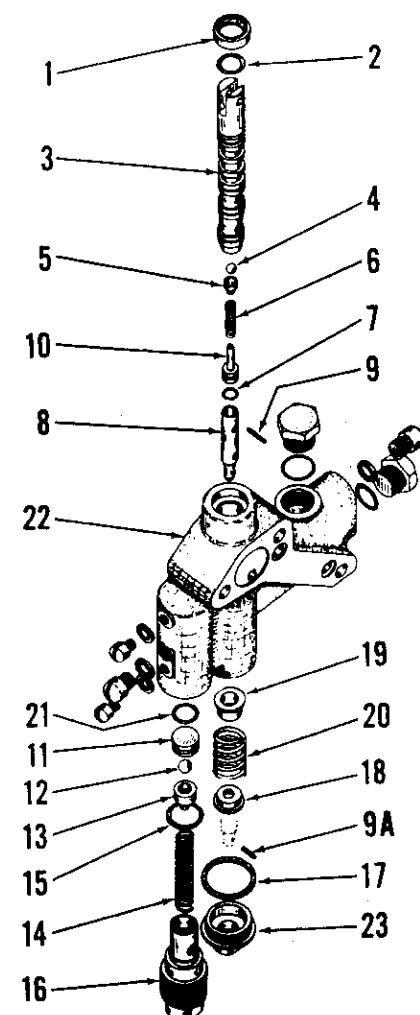

Fig. 150—Exploded view of the double acting auxiliary control valve used on Series 354, 364, 384, 424, 444, 2424, 2444 and late Series B-414 tractors.
To overhaul the removed double or single acting control valves, refer to Fig. 150 and 151 and proceed as
follows: Remove plug (23), then using a valve spring compressor, compress centering spring (20) and drive out roll pin (9A). Remove centering spring and spring seats then withdraw spool assembly from top of valve body. Drive out roll pin (9) and remove ball (4), rider (5), spring (6), spring seat (10) on double acting valves only (Fig. 150), and spool end (8) from spool (3). Unscrew relief valve housing (16) and remove relief valve spring (14), rider (13), ball (12) and seat (11). Using a screwdriver, pry out seal (1).